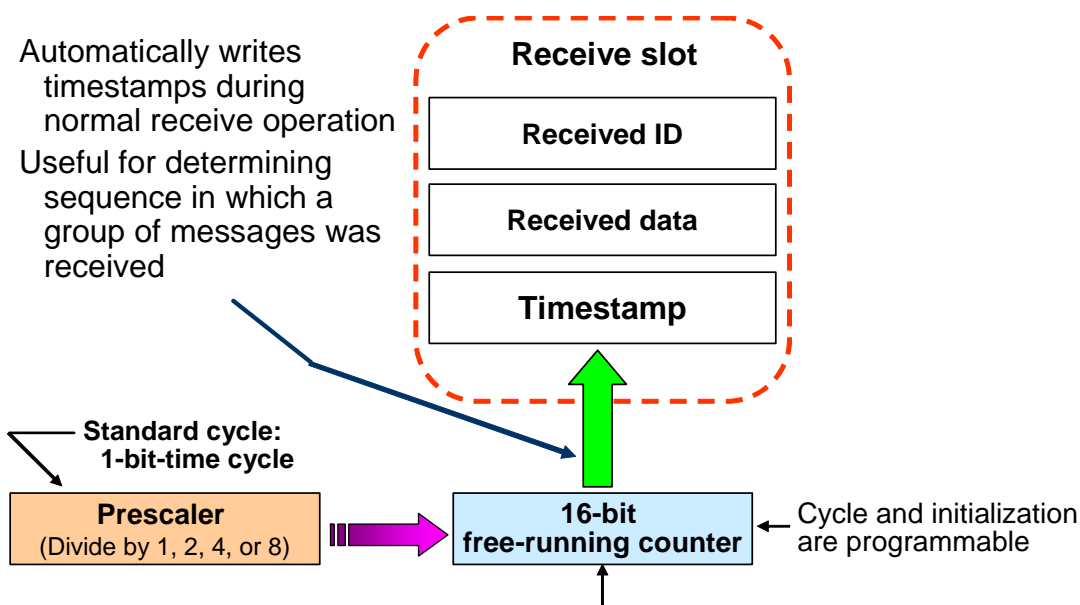

Figure 5. CAN Timestamp Counter
- c. The table values are the total Time Quanta value to disperse among all the timing parameters. Examine Note 5 under the table and Figure 5 of the main Renesas CAN Application Note! There are usually two alternatives in each box. Pick one (the higher the Tq value, the more finely you can tune the communication sampling points).